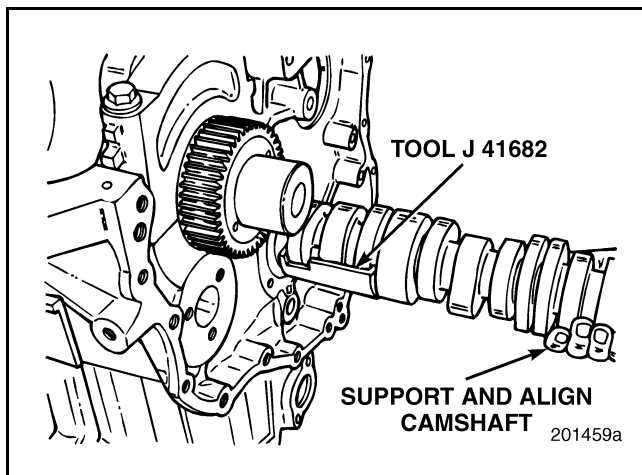

Figure 117 — Camshaft Removal
4. Taking care not to damage camshaft or bushings, pull camshaft out of the front of the engine (Figure 117). Carefully guide rear of shaft through the journals. If shaft does not come out freely, ensure all valve lifters are clear of camshaft cams and journals.